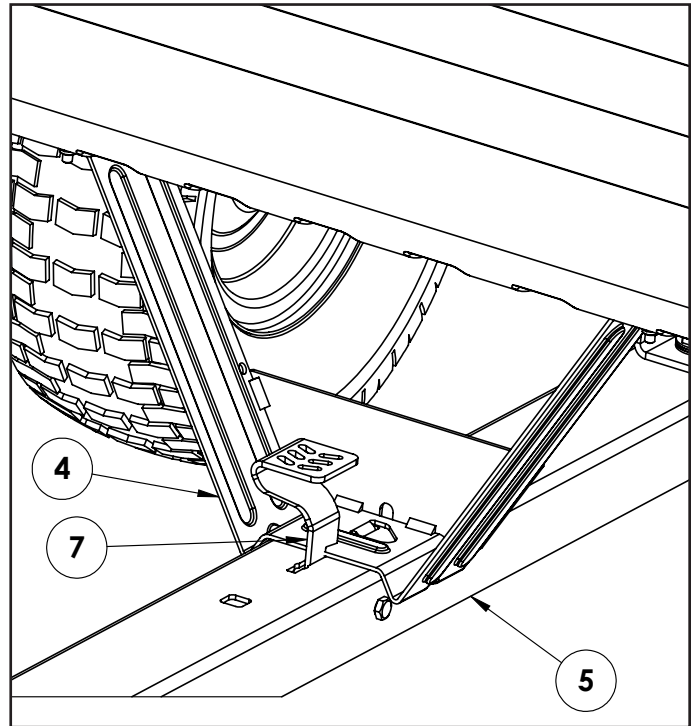

FIGURE 11
STEP 11: (SEE FIGURE 11)
- To secure the latch stand bracket (4) to the swivel tongue (5) you will need to follow these steps:
- Push down on the foot pedal latch (7) and set the latch stand bracket (4) on the swivel tongue (5).
- Release the foot pedal latch (7).